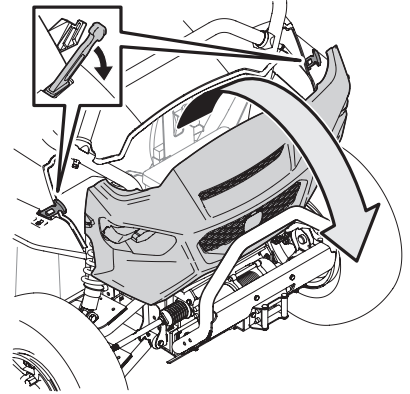

Figure 3-13
1. Unhook the hood latches and lower the hood. See Figure 3-13.